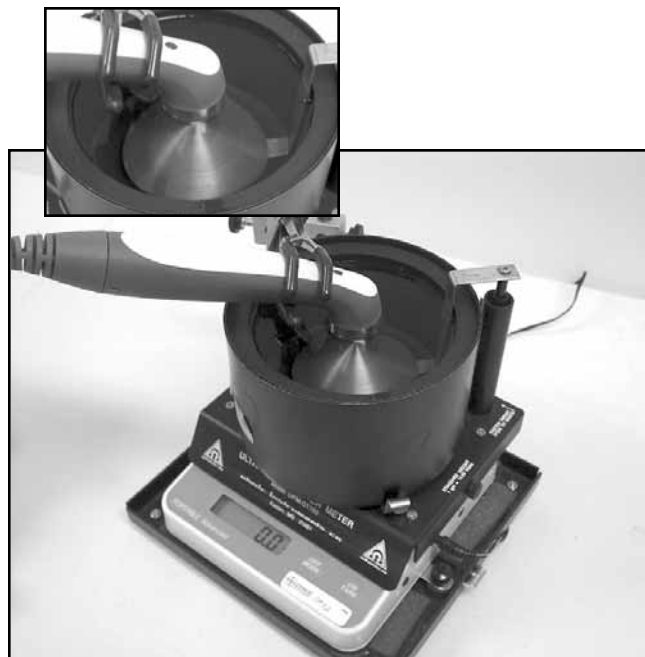

FIGURE 5.21
2. Place an Applicator into the Power Meter retainer. Make certain the Sound Head is completely submerged in the degassed water and centered directly over the Stainless Steel Cone. See Figure 5.21.